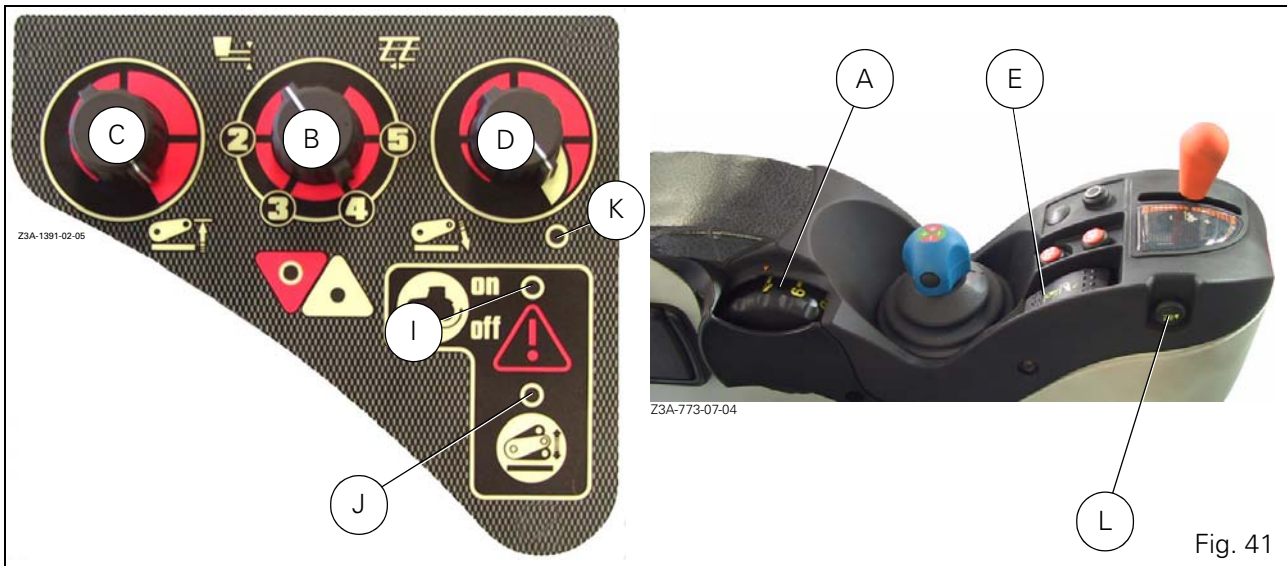

Fig. 41
- (K) and (J) light up for 0.5 second approximately.
- (I) stays on until the console is activated.
- Move the function selector knob (B Fig. 41) clockwise to the lowest position.
- Move the Lift / Lower selector switch (E) to the lift position.
- Adjust the linkage height by turning the control knob (A).
- The Lift indicator light (H) comes on.